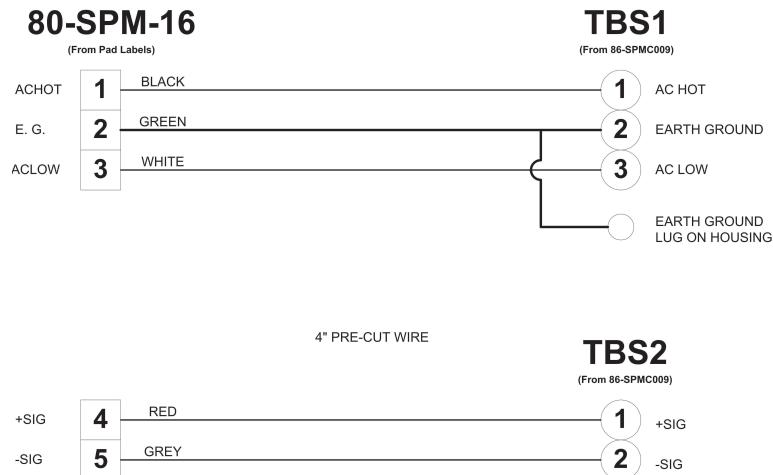
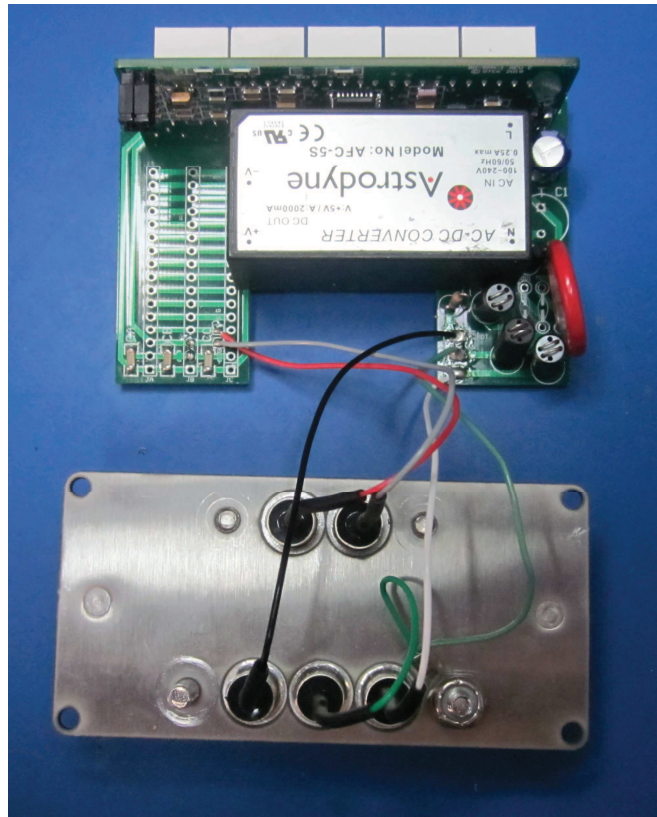

Figure 9: Wiring Diagram
Figure 18: Wiring to Back Plate
- 4.3.12 Solder the wires that connect the Terminal Barrier Strips to the electronic assembly. The wiring diagram can be found in **Figure 9** and a picture of the finished assembly is in **Figure 18**.